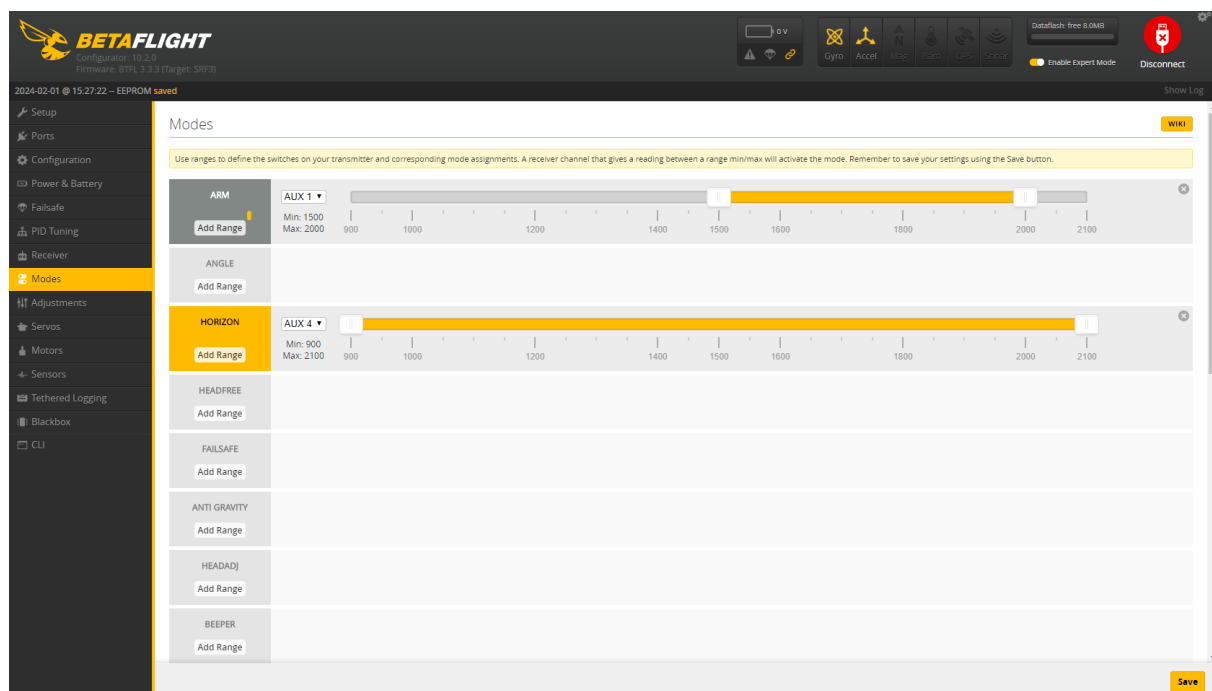

Figure 6 Arm and horizon modes enabled
6. The final menu should look something like Figure 6